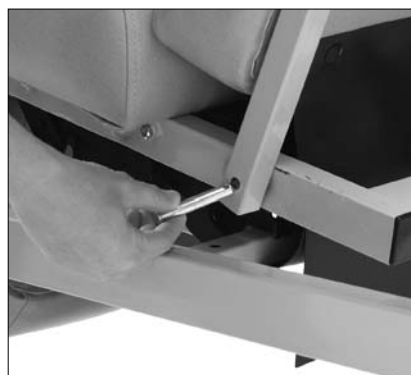

Figure 4
2. Lift the upholstered back from the sides and place it horizontally with the upright back tubes resting on the recliner frame. (Fig. 4)